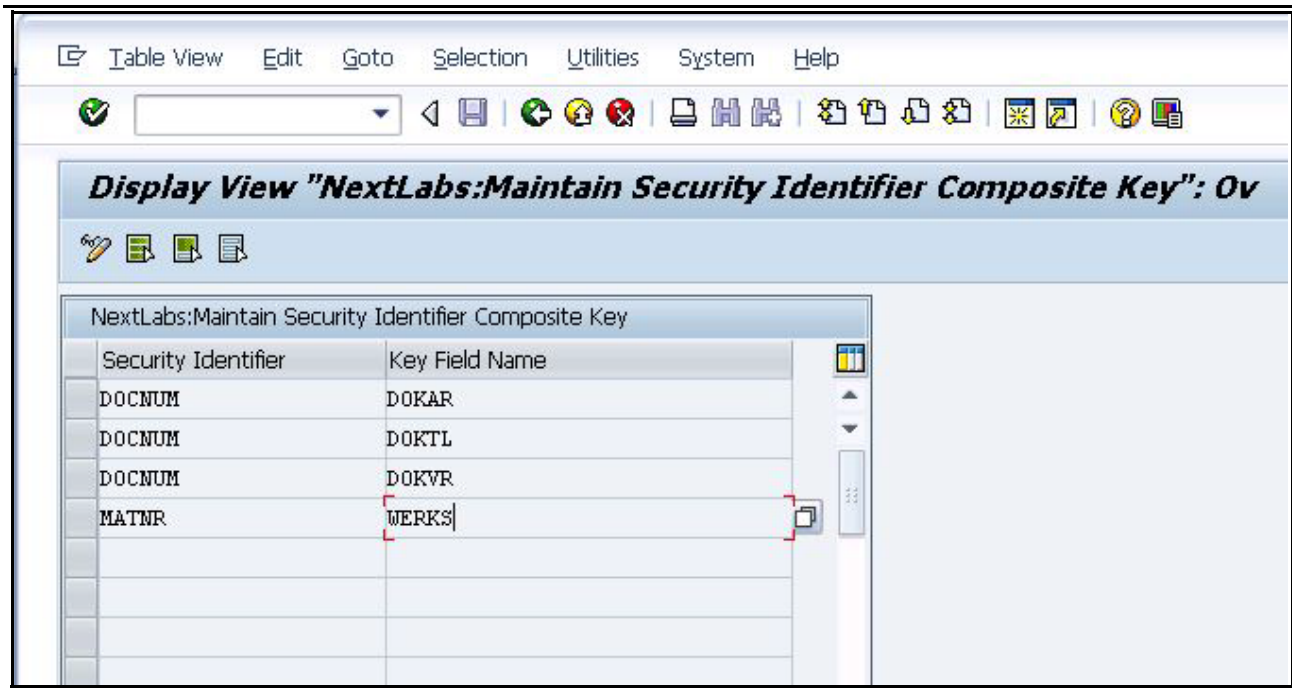

Figure 4-15: Linking Composite Keys to Security Identifiers
- 5 For the existing Security Identifier `DOCNUM`, enter the following three Key Fields (as shown in Figure 4-15):
- 6 Associate each new Composite Key configured in the previous step with a Security Identifier. In Figure 4-15, the Security Identifier for Material (`MATNR`) is linked with a Composite Key for Plant (`WERKS`).